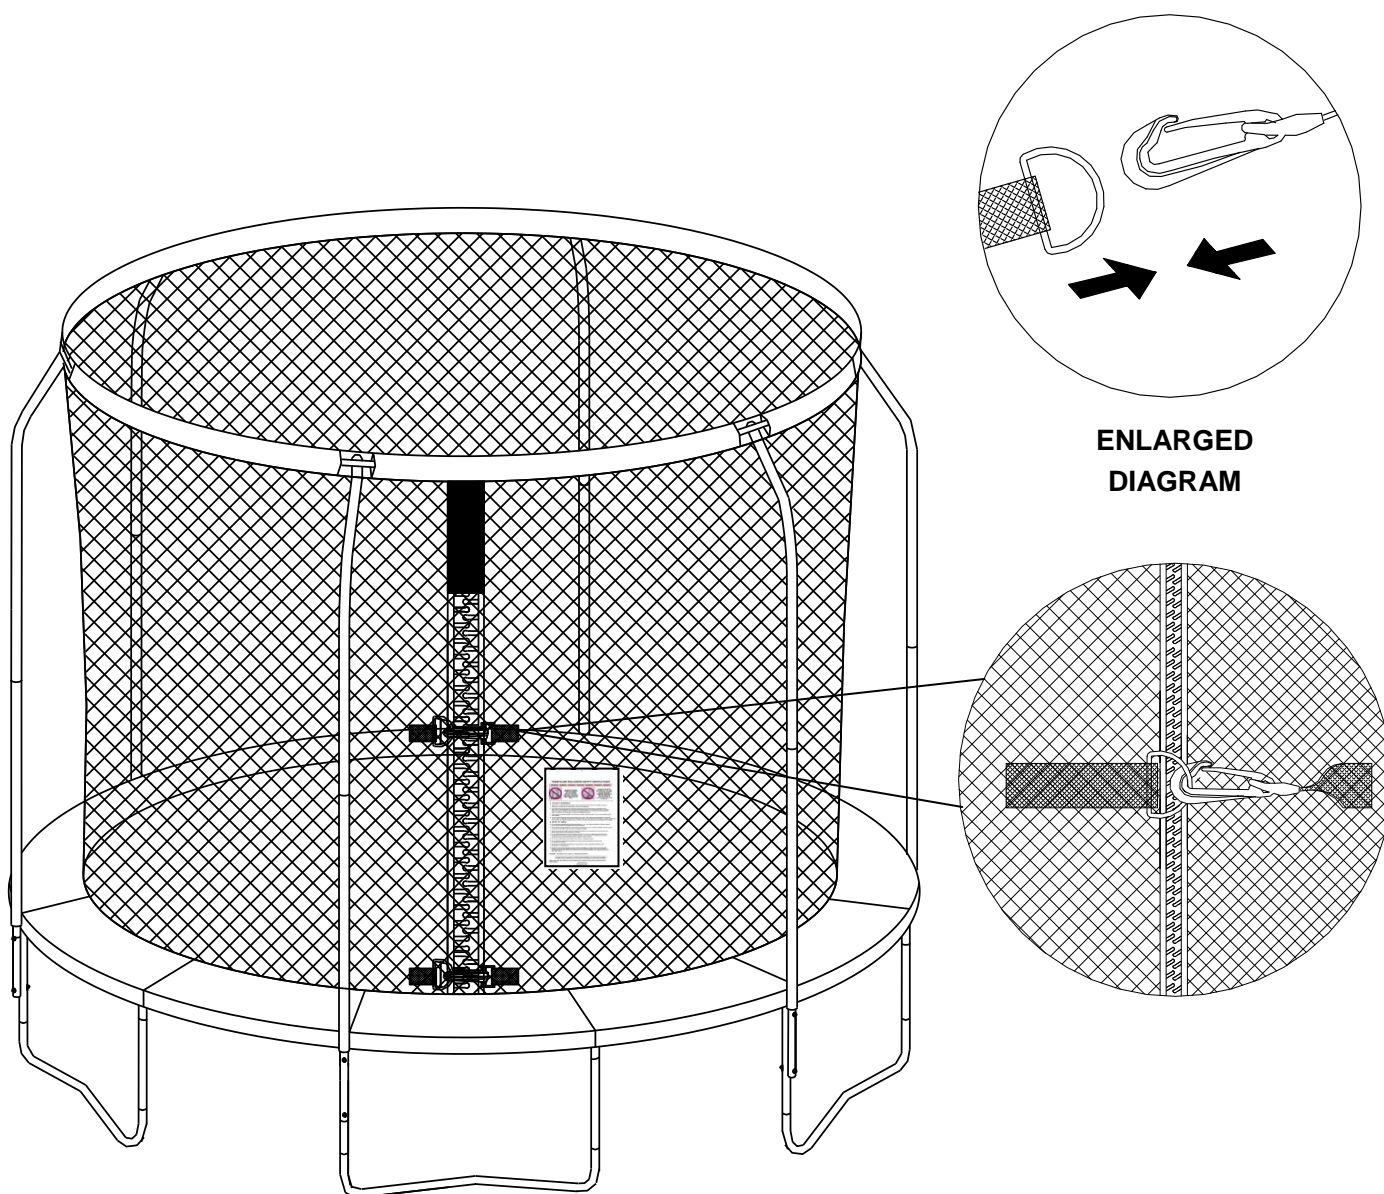

FIGURE 28
- K. Close the zip of the Enclosure Netting of the door which should be located center above a Leg Base of the trampoline, then snap both of the buckles as shown (the lower buckle is not shown) in FIGURE 28.